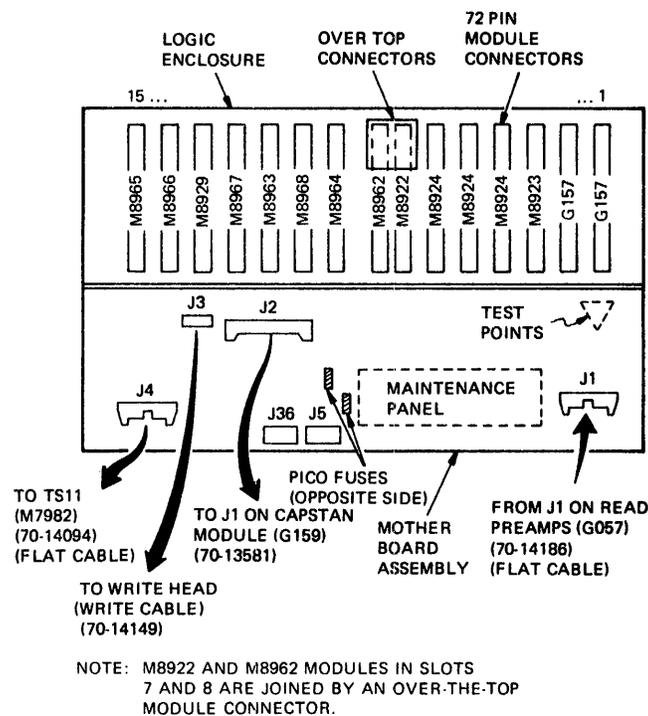

Figure 7-22 Logic Rack (Rear View)
3. The modules are numbered 1 to 15 (Figure 7-22).